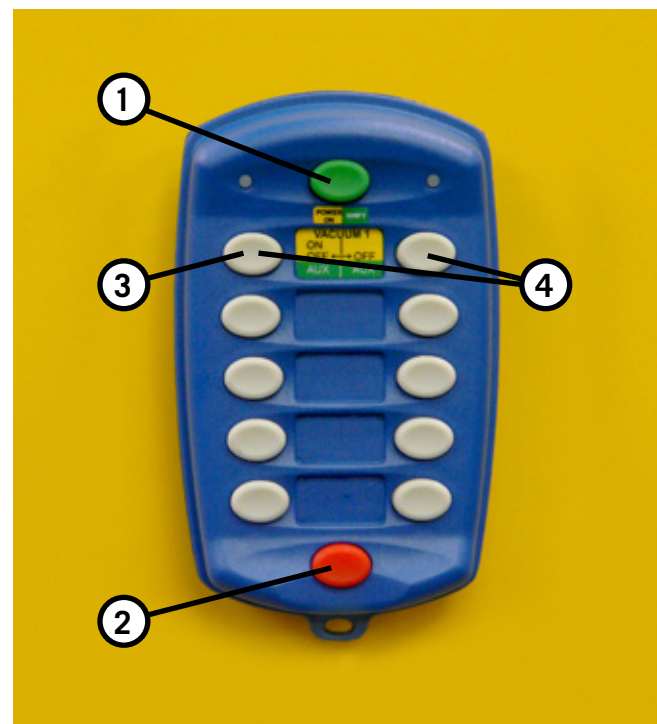

Fig. 1-9
- Push the green button (Fig. 1-9, 1) to turn the wireless remote transmitter on.
2. Press the top left button (Fig. 1-9, 3) to create vacuum on the pad and lift the load.
3. To release the load, press and hold the top left and the top right buttons (Fig. 1-9, 3 and 4) at the same time.
4. To turn the wireless remote transmitter off, push the red button (Fig. 1-9, 2).